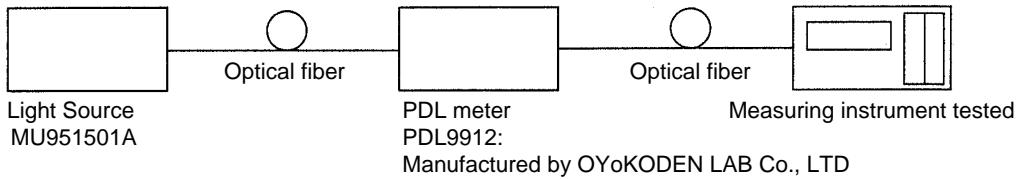

Fig. 5-5
1. Set up a measurement system like that shown in Fig. 5-5.